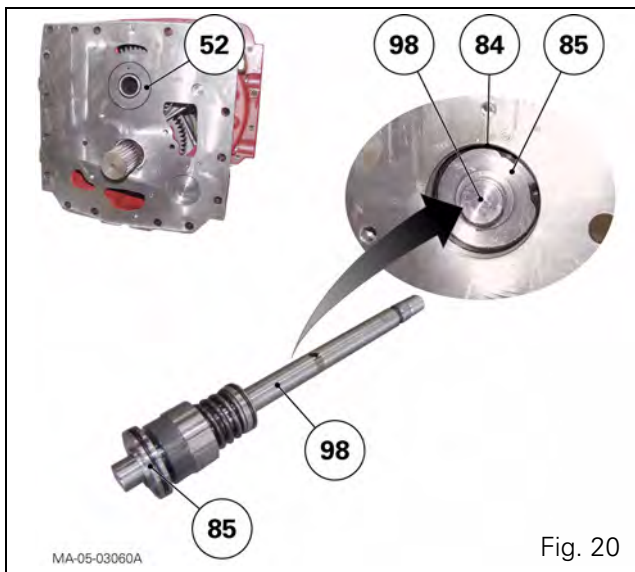

Fig. 20
41. If the sleeve (88) and circlip (87) have been removed, grease the sleeve, insert it into the cylinder, then fit the circlip (87).
42. Thread the selector rail (98) with the lightly greased piston assembly into its housing (Fig. 20).
43. Mount the plug (85) fitted with two new "O" rings (86) (128). Fit the circlip (84) (Fig. 20).
51. Refit the ring (52) (Fig. 20) with the lubricating port turned towards the top of the gearbox. Fix it in position with four punchmarks.